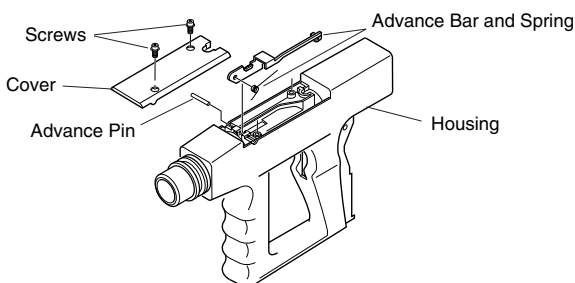

Figure 16 - Replacing Advance Bar
1. Place advance bar and spring into housing (see Figure 16).
3. Place cover onto housing and align holes. Insert screws into cover and tighten with 3mm hex wrench (see Figure 16).